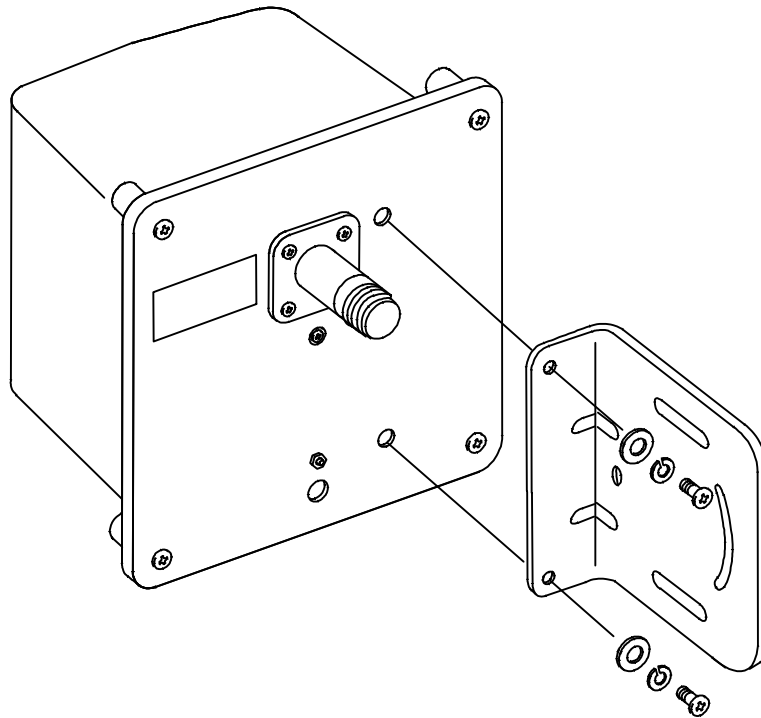

Figure 2-3: Antenna Bracket Assembly
2. Assemble the FSU antenna by attaching the bracket to the antenna according to Figure 2-3.